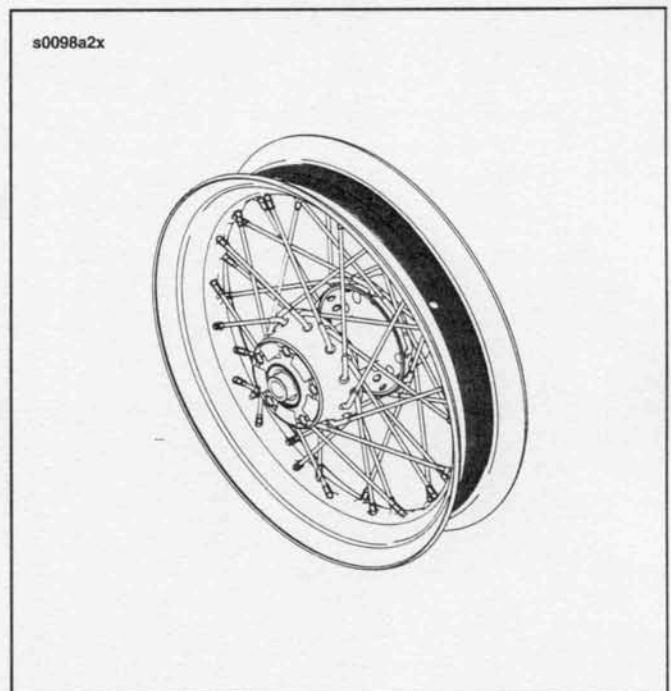

Figure 2-36. Wheel With Rim Strip Installed
4. See Figure 2-36. On laced wheels, install a rim strip into the rim well. Be sure no spokes protrude through nipples and be sure to align the valve stem hole in rim strip with hole in rim.